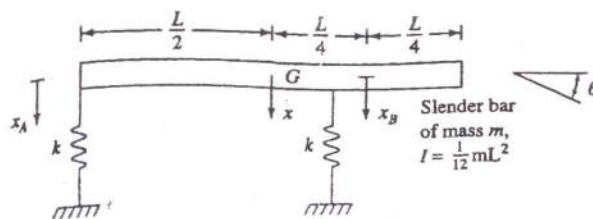

Fig. 2
4. Use the quadratic forms of kinetic and potential energy to derive the differential equations governing free vibration of the system of Fig. 2 and discuss the coupling using (a)  $x$  and  $\theta$  as generalized coordinates and (b)  $x_A$ , the vertical displacement of particle A, and  $x_B$ , the vertical displacement of particle B, as generalized coordinates.